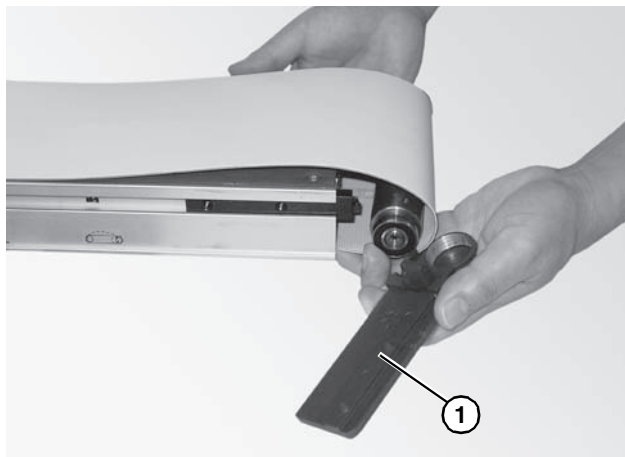

Figure 56
2. Remove the head plate (**Figure 56, item 1**) from the conveyor frame.